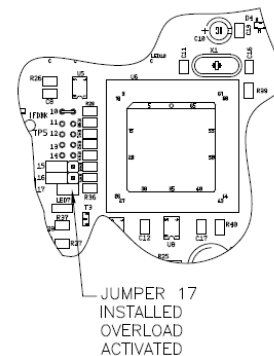

Figure 24: Jumper Location - Overload Activation
2. Place the jumper across the two (2) pins at location 17 on the main PC board (See Figure 24).